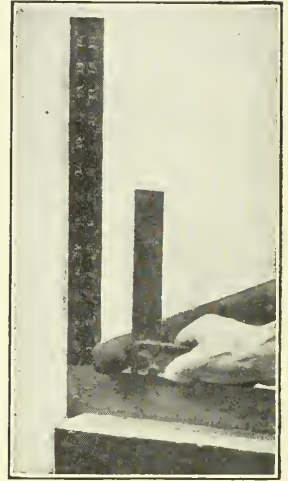

Fig. 61
15. Calipers, which are called "inside" or "outside," according to whether they are to find the diameter of a hole or the outside diameter of an object, are very important in some work, as turning. The diameter of a curved object can often be found by some simple combination of squares, rules, etc., as suggested in Fig. 61.